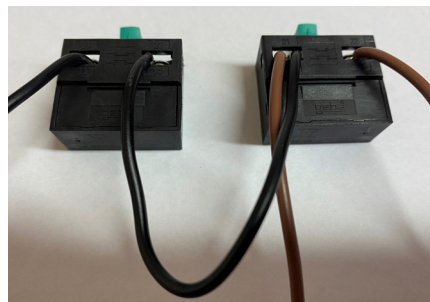
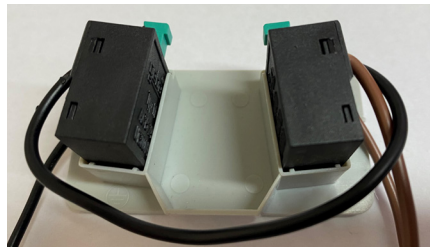

fig.2
fig.3
- 3** Remove plastic connector with switch terminals in (fig.2) and then drill holes in the bottom of the key switch case to allow the wires to be inserted, (1) motor wire (2) power wire (3) safety brake if supplied.
- 5** Key switch terminal wiring (fig.2 & fig.3);